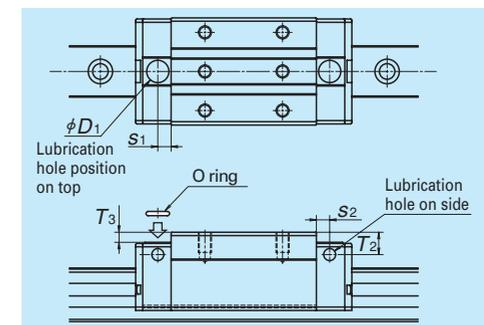

Fig.12 Top and side lubrication hole positions
- A lubrication hole can also be provided on the top of the end cap. Fig.12 and Table 7 show the mounting position.